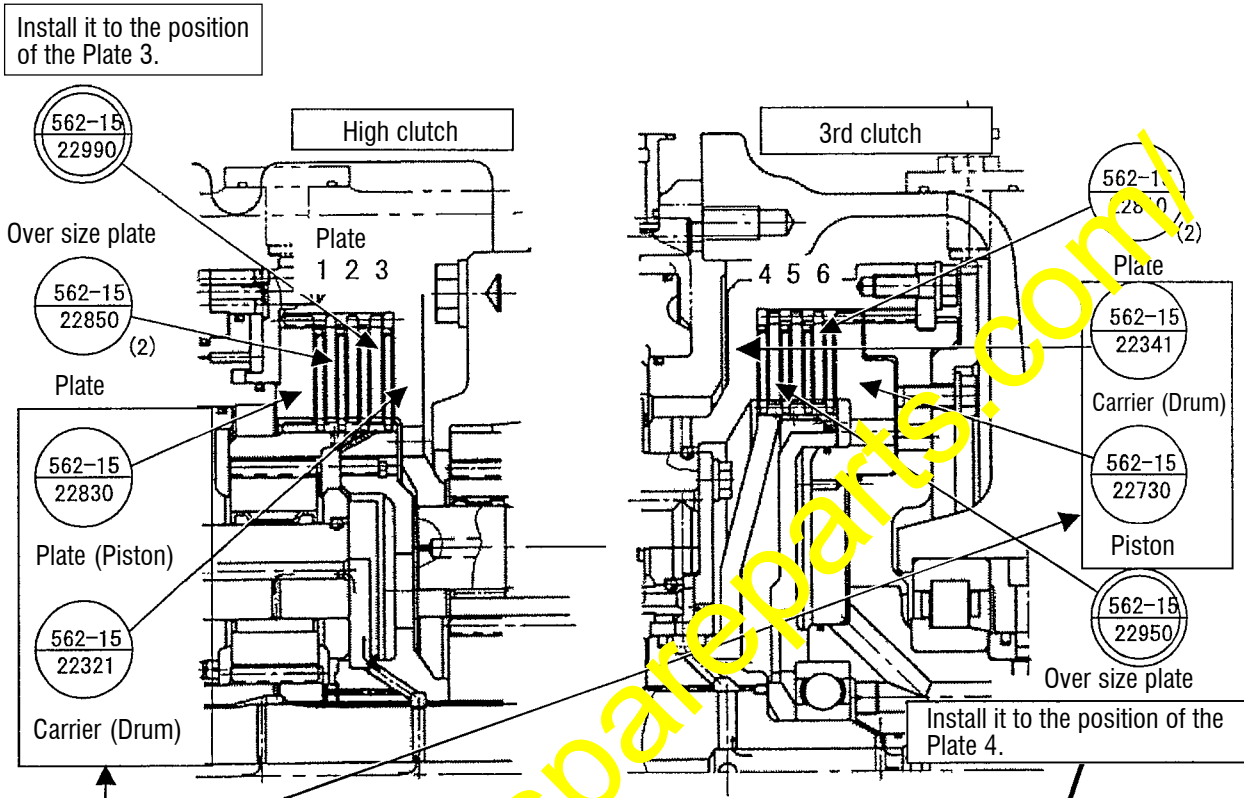

Fig. 7-2
(2) Reassembly procedure when overhauling
- When carrying out the reassembly work, install the over size plate to the position instructed in Fig. 7-2 shown below.